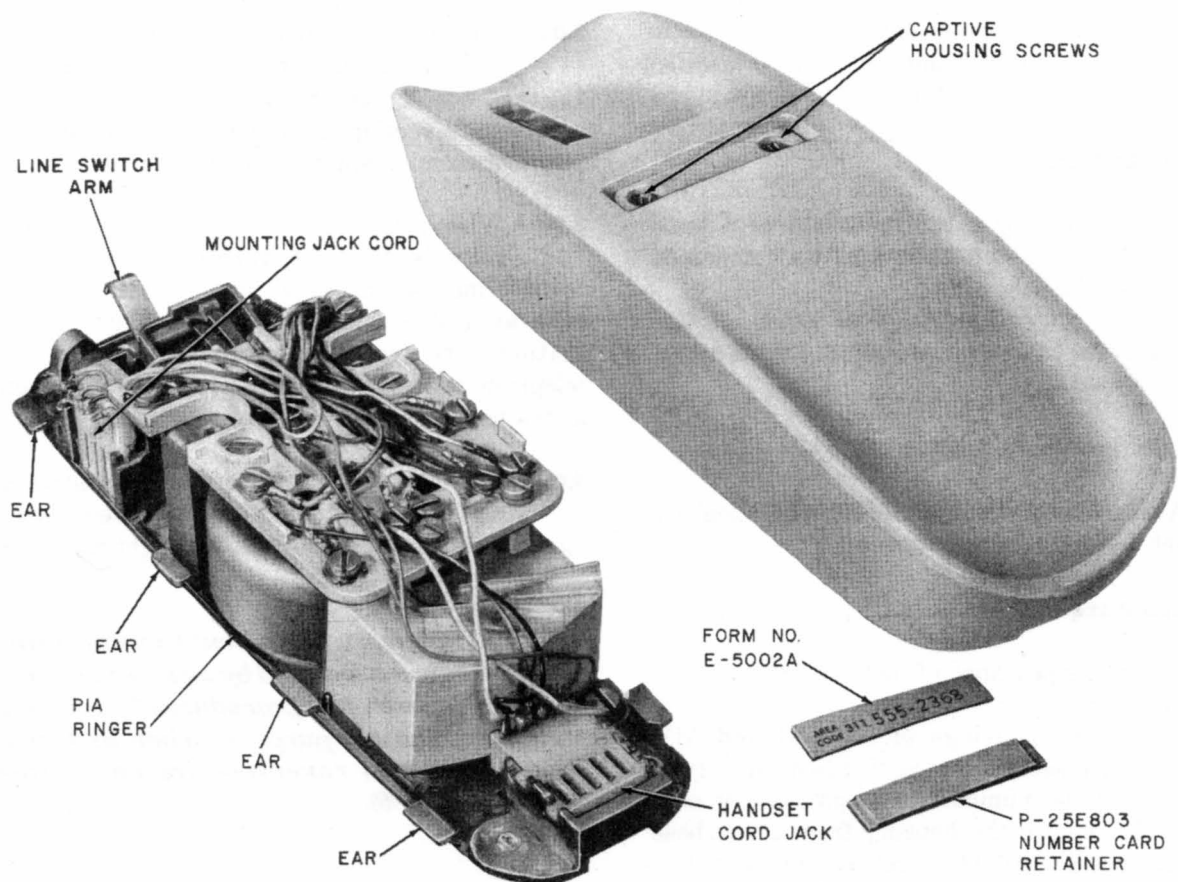
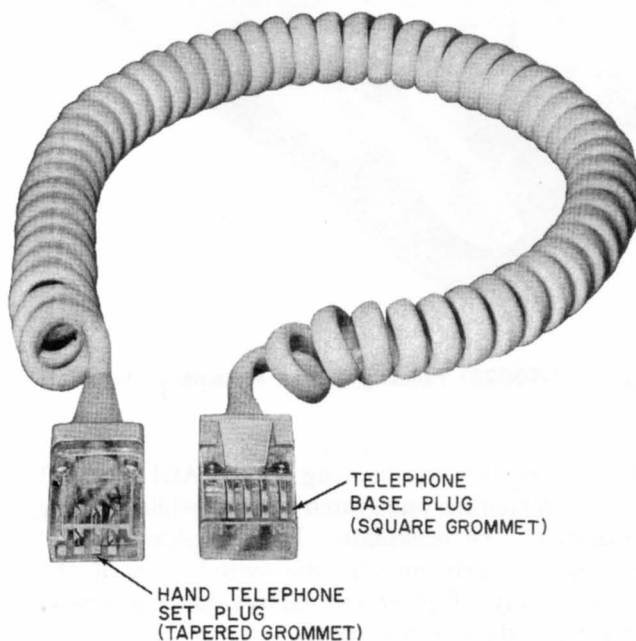

Fig. 3—Interior of AD1 Telephone Base (Current Production)
Fig. 4—H4DB Cord
- Equipped with jack (Fig. 3) to accommodate a plug ended handset cord (Fig. 4).